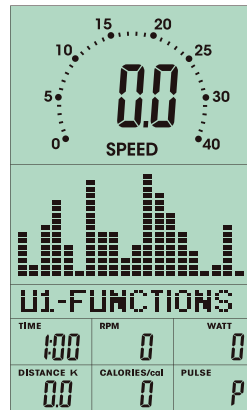

FIGURE 28
2. When the workout time expires (FIGURE 28~30), the screen will flash and an alarm will sound. The alarm can be stopped by pressing any button.